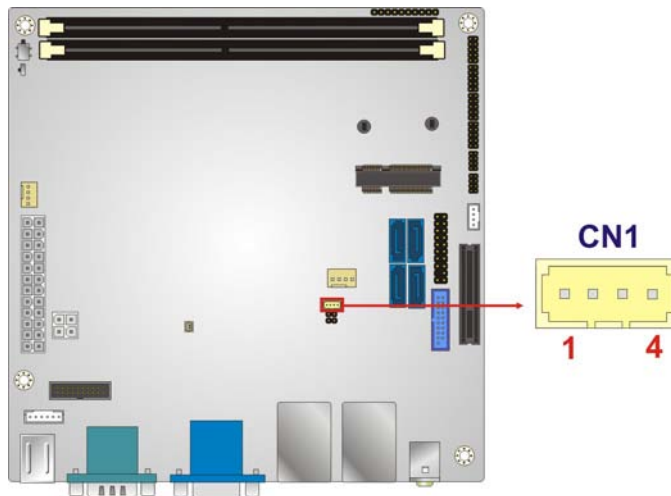

Figure 3-20: SMBus Connector Location
- CN Location: See **Figure 3-20**